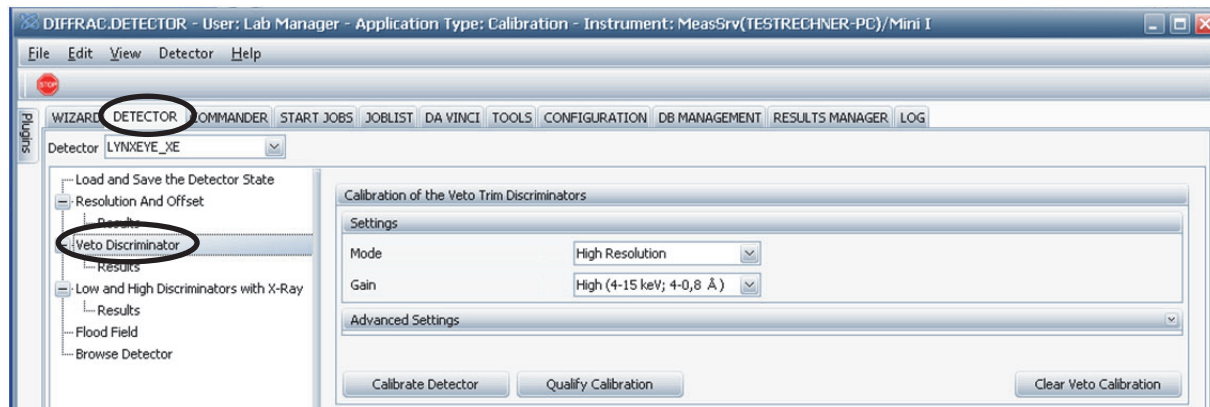

Figure 6.7: Selecting DETECTOR Plugin for Veto Discrimination
1. Open the DETECTOR plugin and select the LYNXEYE_XE and activate the 'Veto Discriminator' (Figure 6.7).